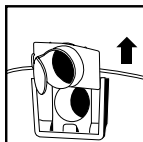

FIGURE 22
32. Remove the inlet deflector from the deflector guide. **NOTE:** Hose must be removed before the inlet deflector can be taken out. **FIGURE 22.**